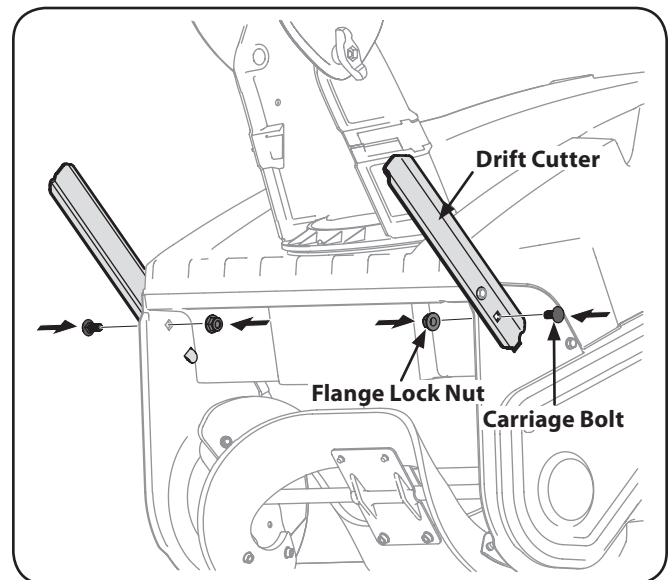

Figure 3-6
- Install the drift cutters and secure with the carriage bolts and flange lock nuts removed in step 1. See Figure 3-6.